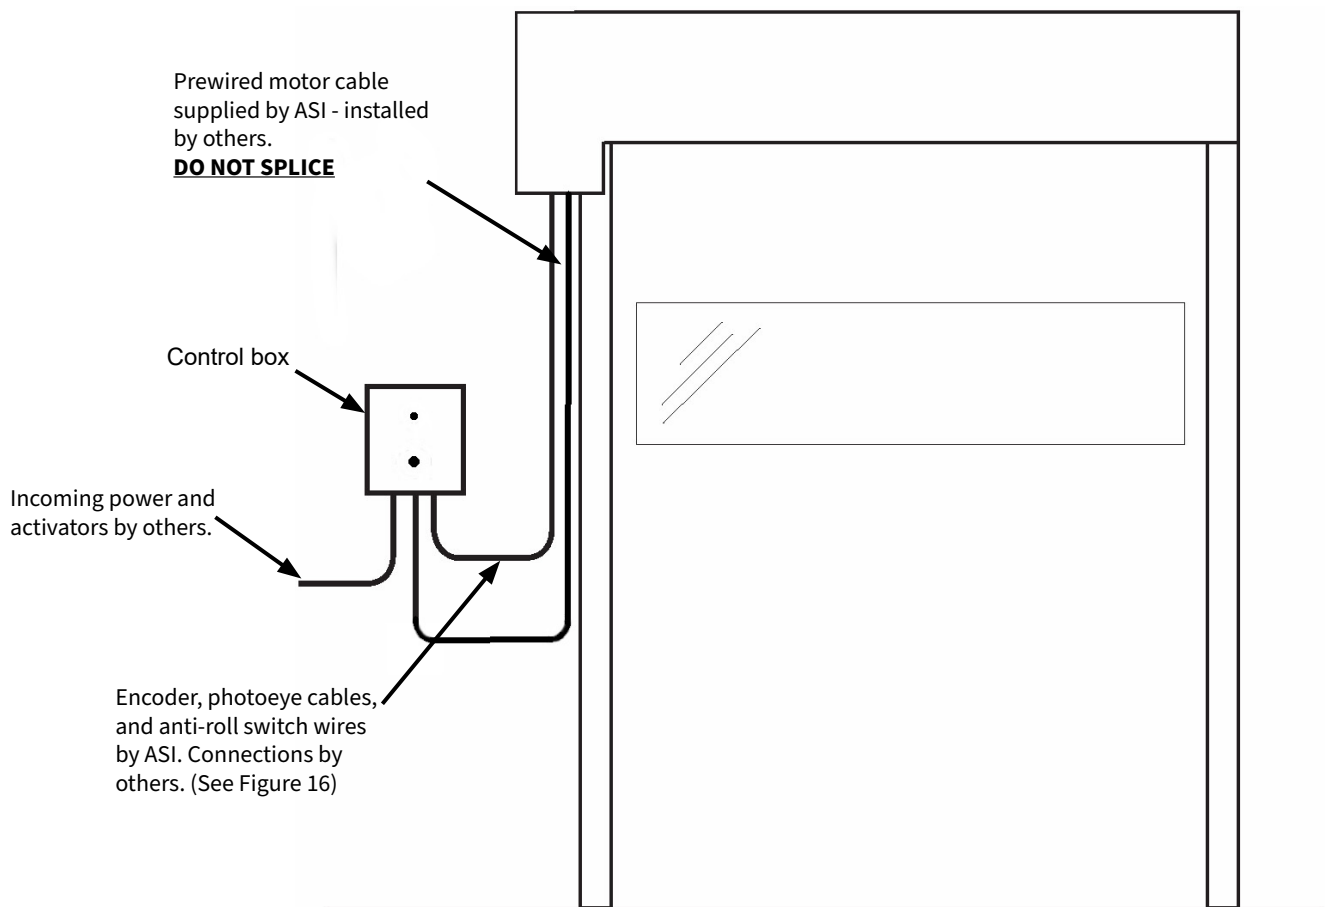

Figure 15: Wiring Installation
1. Prewired cable from motor must not be spliced. Run this cable to control box (Figure 15).
3. All connections for motor, encoder, photoeyes, anti-roll switch, and any activation devices should be made per the schematic. All wiring connections from harness must be terminated in the control box (see Figures 15 & 16).